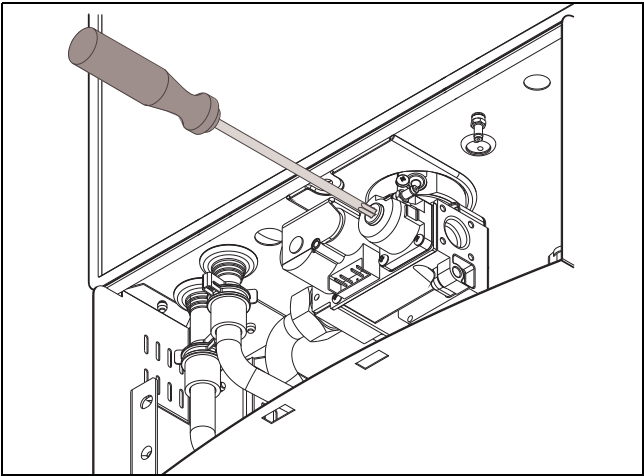

Fig. 74 Adjusting P2 CO₂ level
- Remove yellow painted #40 Torx cover from the front of the gas valve. (Fig. 74) A plastic #40 Torx screw will be revealed.